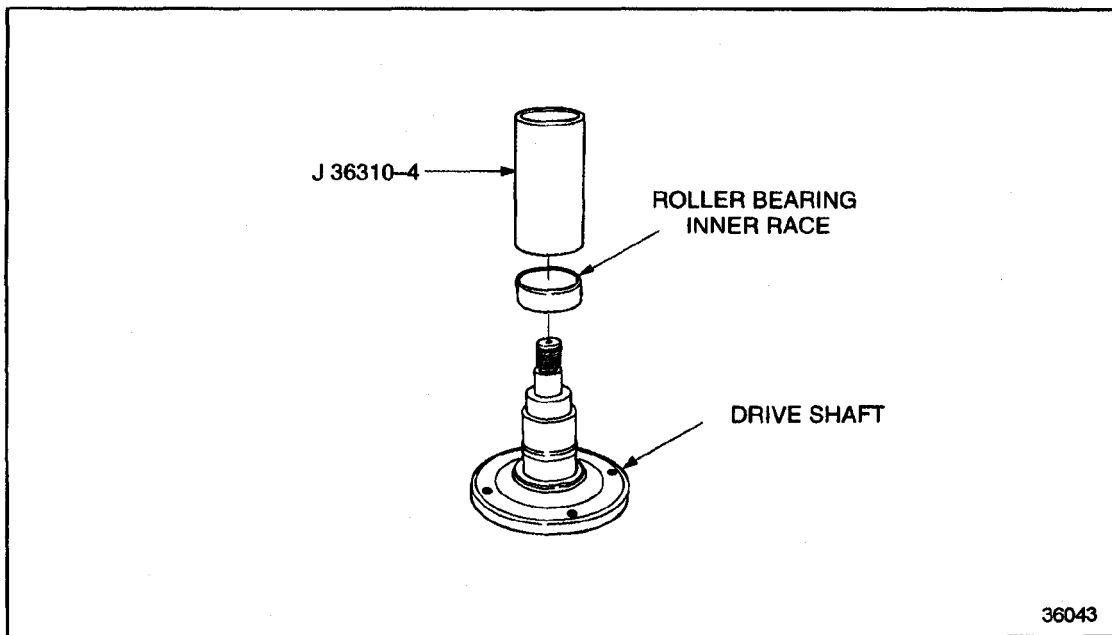

Figure 10-24 Bearing Inner Race Installer
1. Install the roller bearing inner race to the air compressor drive shaft using a press and J 36310-4, part of J 36310-A. See Figure 10-24.